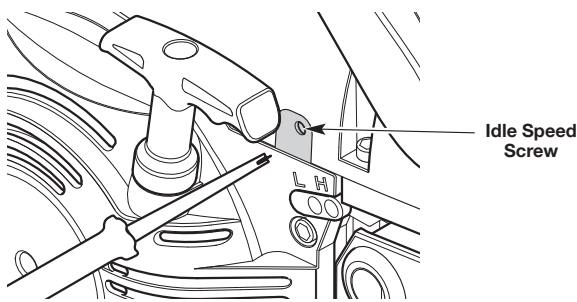

Fig. 43
- If the engine stops, use a small Phillips or flat-head screwdriver to turn the idle speed screw clockwise, 1/8 of a turn at a time (as needed) until the engine idles smoothly (Fig. 43).
- If the engine idles too quickly, turn the idle speed screw counterclockwise, 1/8 of a turn at a time (as needed) to reduce the idle speed (Fig. 43).